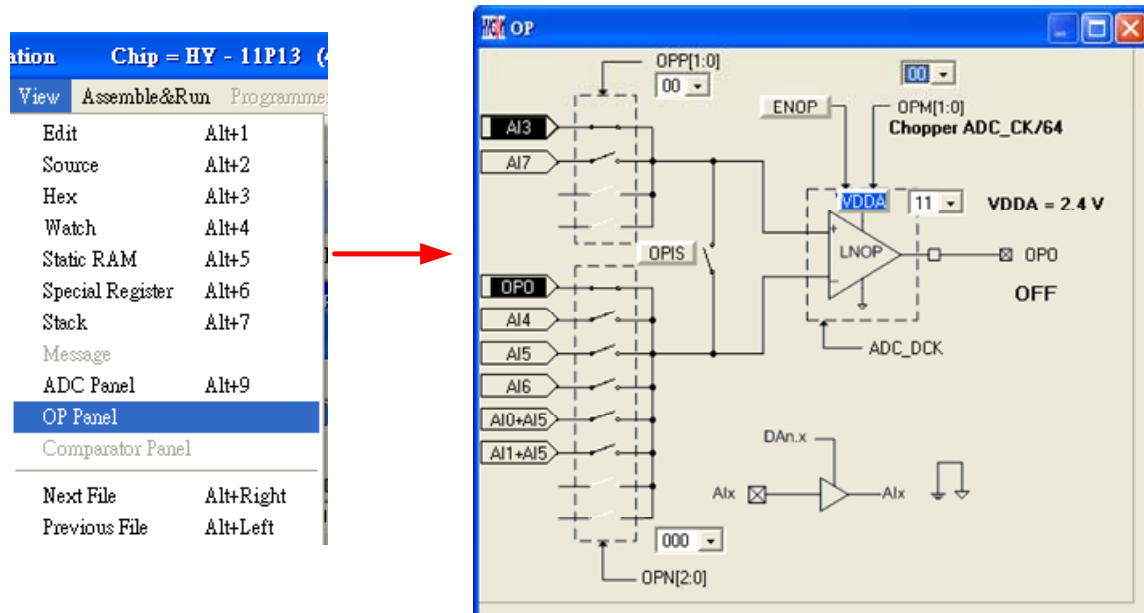

Figure 49
(1) Click the network by mouse, VRH can select the specified network.
(2) Click the network switch by mouse, VRH can select the specified network switch. VRH can choose the specified network.
(3) Click the network by mouse, a menu as Figure 49 will appear. Users can select the specified switch network.